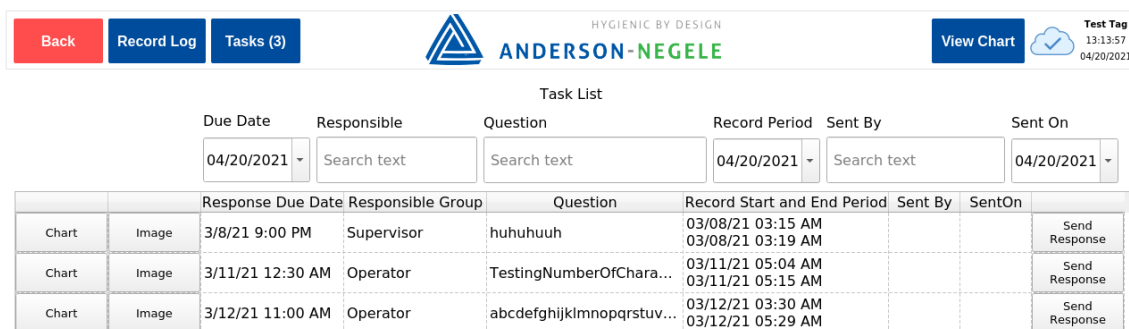

Figure 54: Open Task List
3. A detailed list of all open tasks will appear, as seen in Figure 54 below